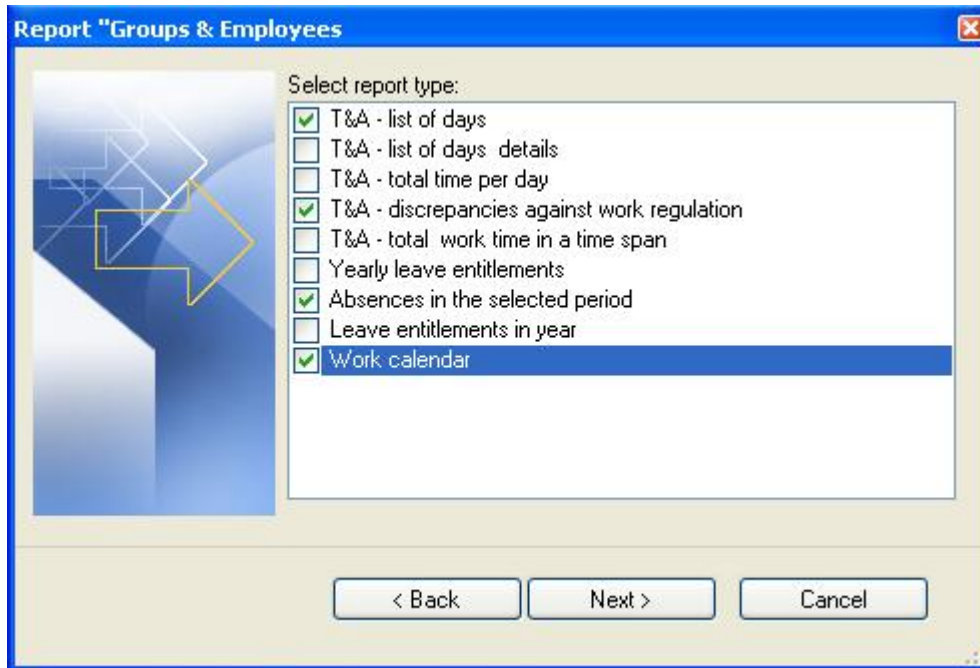

Figure 24. Selecting report types to be generated
Step 1. Select report types to generate. In the example below (see Figure 24), the generic report on work time, the report on discrepancies to work regulations (late arrivals, exceeded break limits — e.g. cigarette breaks, and so on), absences in the selected period and the work calendar report, have been selected.